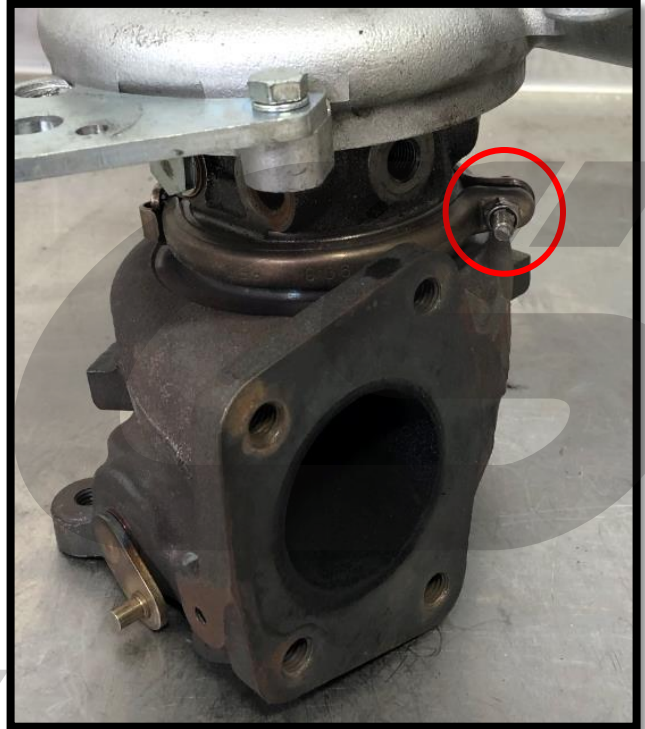

Figure 2a
- a) Set the turbocharger on the downpipe flange of the turbine housing as shown in **Figure 2a**.
- b) Using a 10mm socket and ratchet, loosen and remove the v-band clamp that holds the turbine housing to the CHRA. Shown **circled in red** in **Figure 2a**. Shown removed in **Figure 2b**.